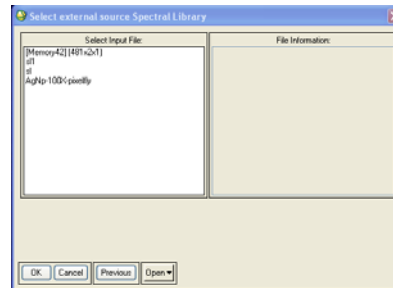

Figure 4. Selecting the External Source input file
9. The Select external source Spectral Library box opens. Select which input file to use for the external source (see Figure 4). Click OK.